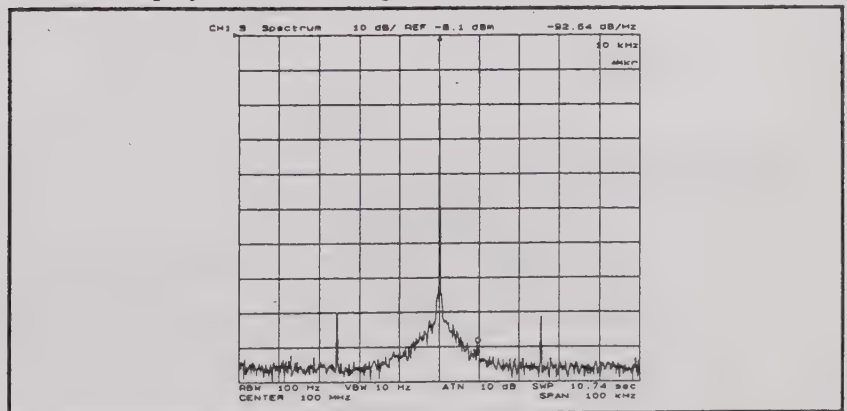

Figure 3-4.
5. Press **Utility** **NOISE FORM** on **OFF** to **ON** off. The analyzer displays the C/N ratio with the unit of “dB/Hz” at the upper right of the display as shown in Figure 3-4.